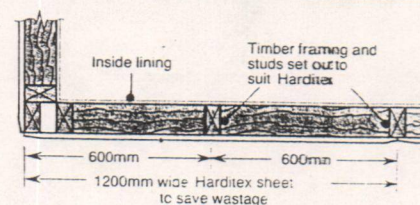

Fig. 19 Frame and stud set out
- IT WILL BE MORE ECONOMICAL WHEN THE TIMBER FRAMING IS PRE-CUT OR SET OUT TO SUIT THE EXTERIOR CLADDING RATHER THAN THE INTERIOR GIB BOARD LINING OR SIMILAR. FOR A TYPICAL EXAMPLE OF THIS REFER FIG. 19.